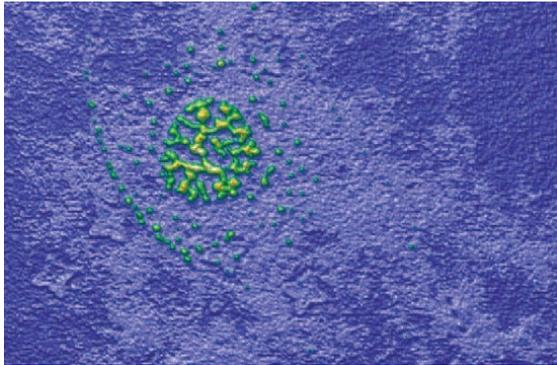

Fig. 2: AFM height image of DNA capture probes dissolved in phosphate buffer
- Topographical information of bio-molecules (such as DNA) on a surface submerged in liquid (figure 2)